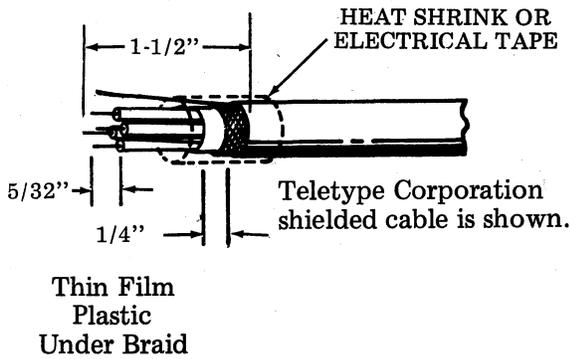

Fig. 66
- (a) Prepare the printer end of the cable using the method of 3.16 and 3.17 but use 341647 terminals and insert the terminals into a 401150 connector, as shown in Fig. 66, 67, and 68. These parts are from a 452220 installation kit (for 2 printers). Observe that the drain may not be present in the cable.
- 3.47 If one of the assembled type SSI cables of Fig. 66 will be used to connect to the printer, proceed to 3.48. If an SSI connector is not on the printer end of the SSI cable, follow the instructions of 3.34 through 3.37, as applies, and prepare the cable end, then proceed to 3.48.